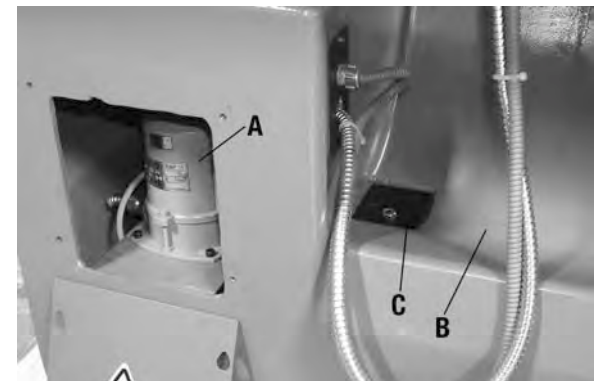
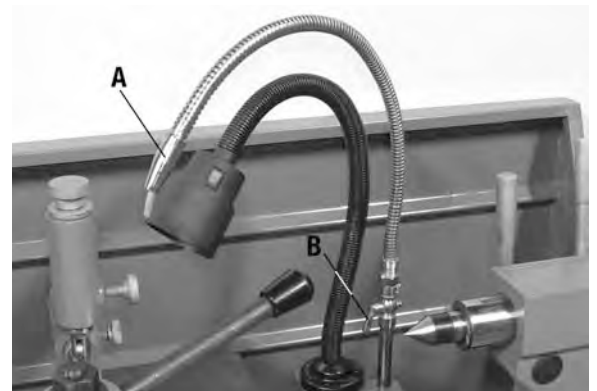

FIGURE 30
FIGURE 31
The coolant system operates by recycling the coolant flow from the coolant pump (A) Fig.30 up through the coolant spout (A) Fig.31, then falls into the chip tray (B) Fig.30 and drains back down through the screen (C) to the coolant pump and the cycle is repeated. To fill the system with coolant, simply pour coolant into the chip tray, it will flow down into the coolant bucket. Be careful not to overflow.
The amount of flow is controlled by a valve (B) Fig.31 at the base of the coolant spout. For maximum flow, open the valve completely, Fig.31 shows the valve in the open position, turn the valve a 1/4 turn in either direction to close it.